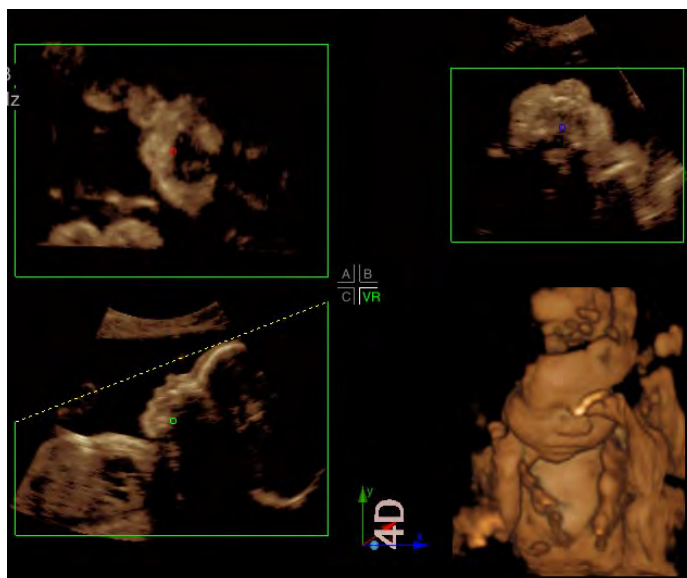

Figure 243: A/B/C/VR mode
a) A/B/C/VR mode (as shown in Figure 243) with quadruple window display.